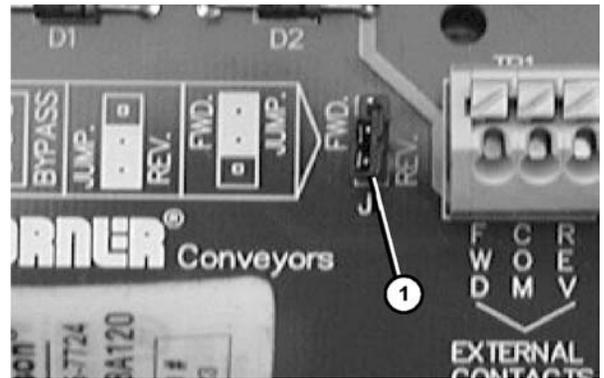

Figure 58
For forward belt movement, install the jumper (**Figure 58, item 1**) between the FWD pin and center pin, the top two pins. For reverse belt movement, install the jumper between the REV pin and the center pin, the bottom two pins. (This jumper is removed when direction is controlled from the remote machine interface terminals.)